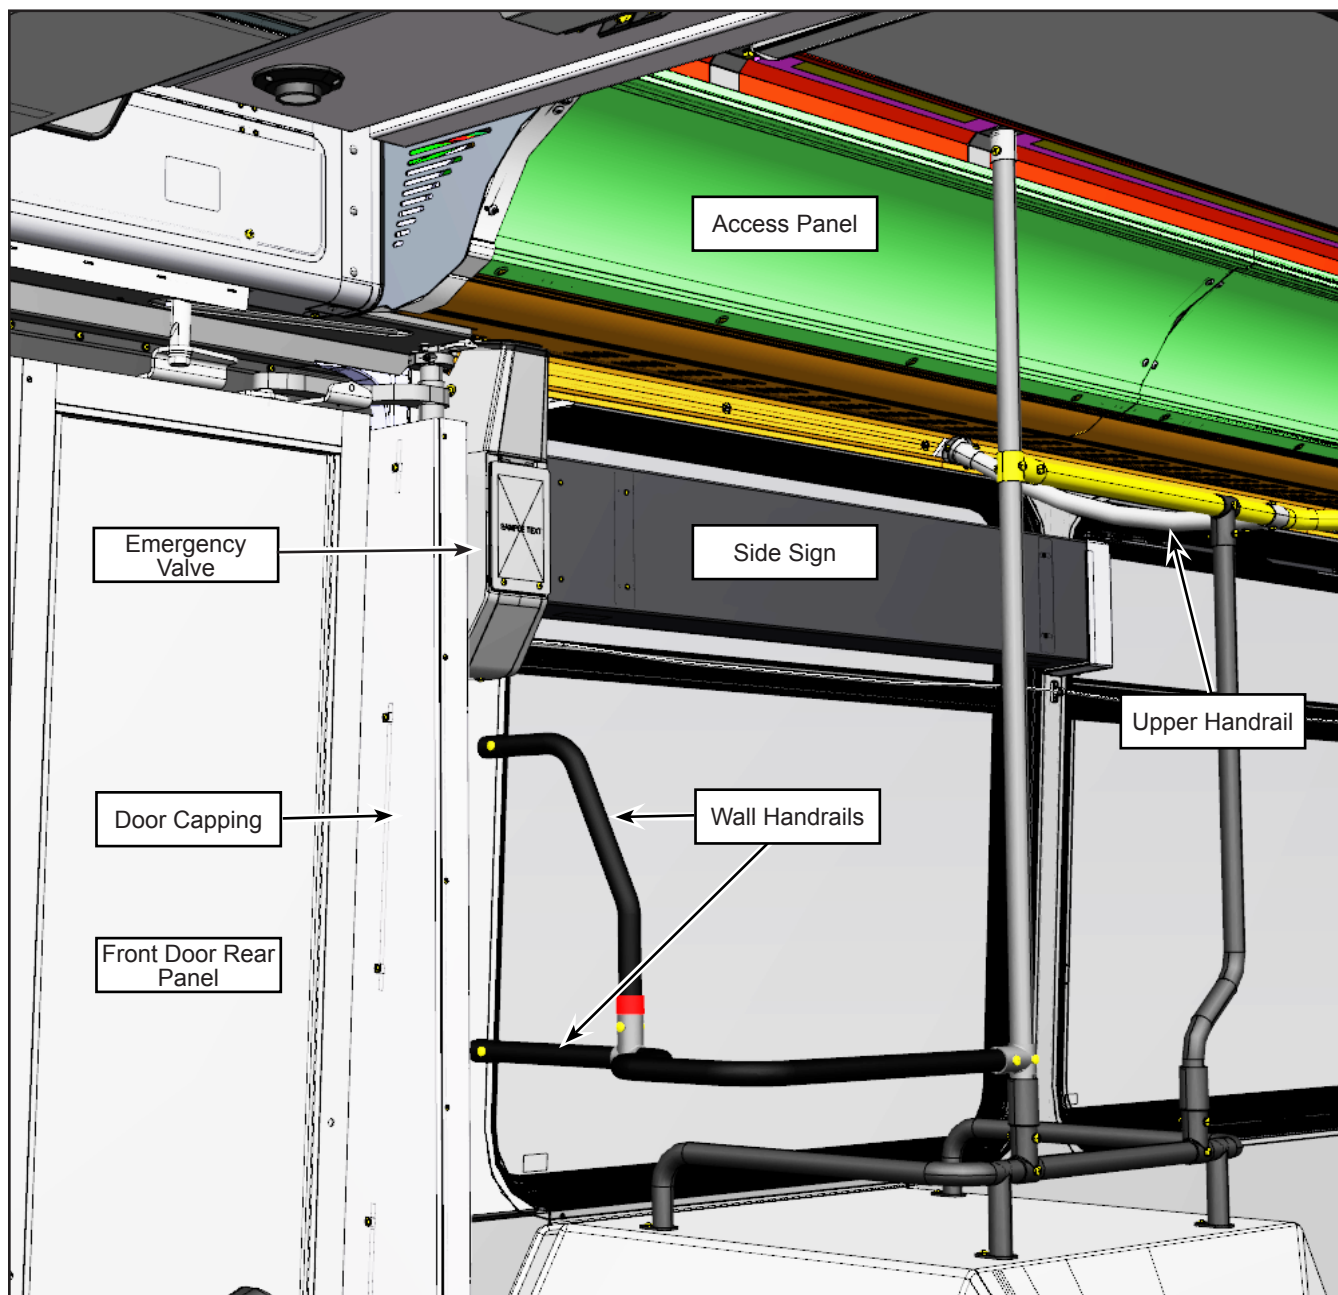

Figure 2 - Parts Identification
- 1.1. Remove the access panel above the first curb side window. See Figure 2.